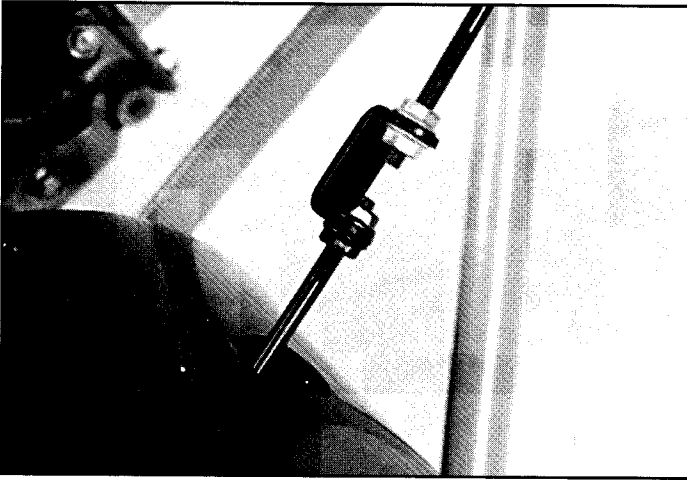
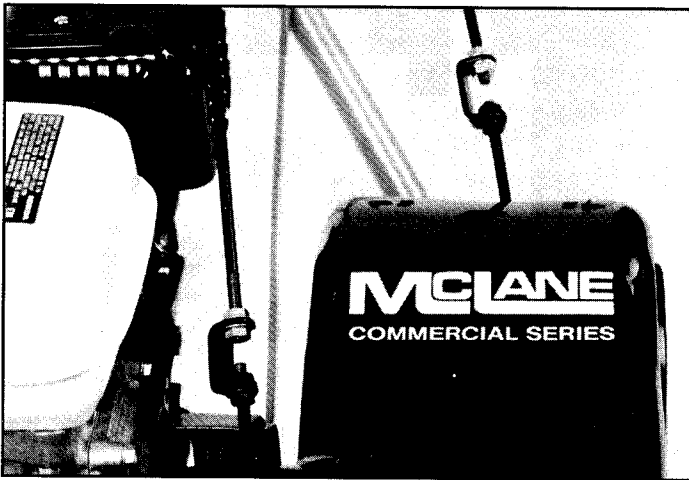

Fig. 4
Fig. 5
2. Remove one nut from drive control short rod (see Fig. 4), and put drive control short rod into adjustment bracket, reinstall nut to drive control short rod (see Fig. 5).
2. Remove one nut from clutch control short rod and put clutch control short rod into clutch assembly unit, reinstall nut to clutch control short rod with adjustment bracket (see Fig. 5).